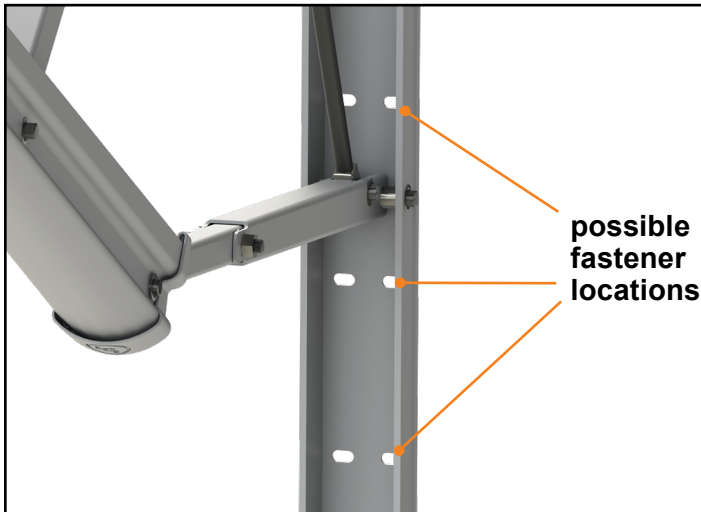

Fig.7
3. Use the crank handle (**Fig.10A**) to extend the awning (see "Operation" section of this manual). Install the remaining two #14 x 1 1/4" plain hex head self-tapping screws at any of the three locations shown (**Fig.7**) in the center of the support arm. Repeat this process for the opposite awning support arm assembly.